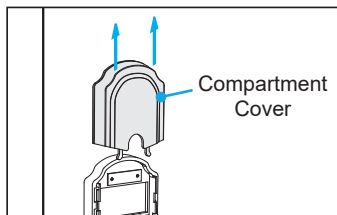

Fig. 9
**Step 3.** Remove the battery compartment cover on the inside section (Fig. 9).